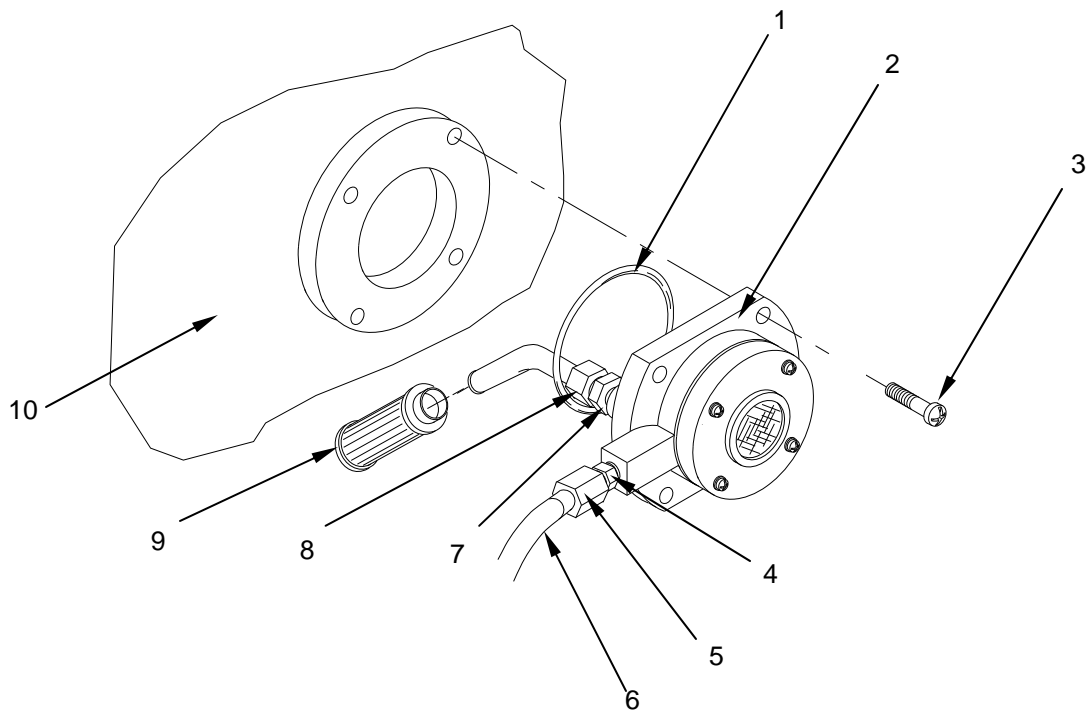

Figure 3. Replace the Fuel Regulator Assembly.
4. Remove the four retaining screws (Figure 3, Item 3) with a suitable screwdriver.
5. Remove the fuel regulator assembly (Figure 3, Item 2) from the fuel tank (Figure 3, Item 10).
6. Discard O-ring (Figure 3, Item 1).
7. Pull the fuel filter (Figure 3, Item 9) of the fuel regulator assembly.
8. Using two wrenches, loosen the fuel pickup tube nut (Figure 3, Item 8) from the tube adapter (Figure 3, Item 7).
9. Remove the tube adapter (Figure 3, Item 7), with fuel pickup tube still attached, from the fuel regulator. Retain the tube adapter and fuel pickup tube for reassembly.
10. Install the retained tube adapter (Figure 3, Item 7) with fuel pickup tube attached, onto the serviceable fuel regulator (Figure 3, Item 2) as shown in Figure 3.
11. Push fuel filter (Figure 3, Item 9) onto fuel pickup tube until fully seated.
12. Lubricate the O-ring (Figure 3, Item 1) with a small amount of clean fuel.
13. Install a new regulator assembly by installing a new O-ring (Figure 3, Item 1) between the fuel regulator (Figure 3, Item 2) and fuel tank (Figure 3, Item 10).
14. Insert the fuel regulator assembly (Figure 3, Item 2) into the fuel tank (Figure 3, Item 10) and secure with the four retaining screws (Figure 3, Item 3) using a suitable screwdriver. Ensure the fuel line fitting is facing the front of the MBU and the fuel filter and pickup tube point down into the fuel tank.
15. Reconnect the fuel feeder line (Figure 3, Item 6) by tightening the compression nut (Figure 3, Item 5) to the fuel regulator fitting (Figure 3, Item 4). Use two wrenches, one on the fitting and one on the compression nut.